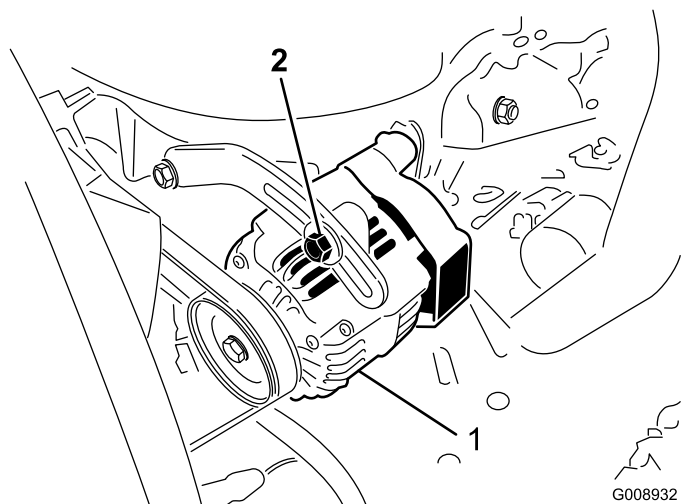

Figure 54
Check the condition and tension of the belts (Figure 54) after every 100 operating hours.
2. If the deflection is not 10 mm (3/8 inch), loosen the alternator mounting bolts (Figure 54). Increase or decrease the alternator belt tension and tighten the bolts. Check the deflection of the belt again to ensure that the tension is correct.